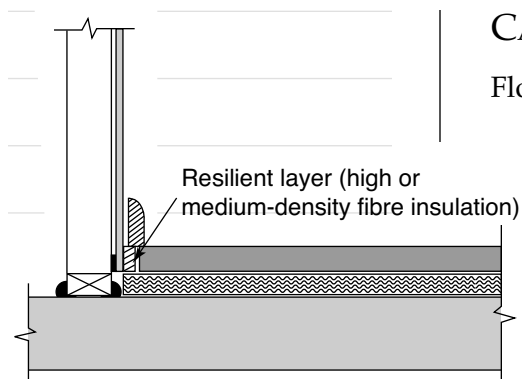

FIGURE 13
- ◆ Stop the floating floor from touching the walls at the edges, as shown in Figure 13.